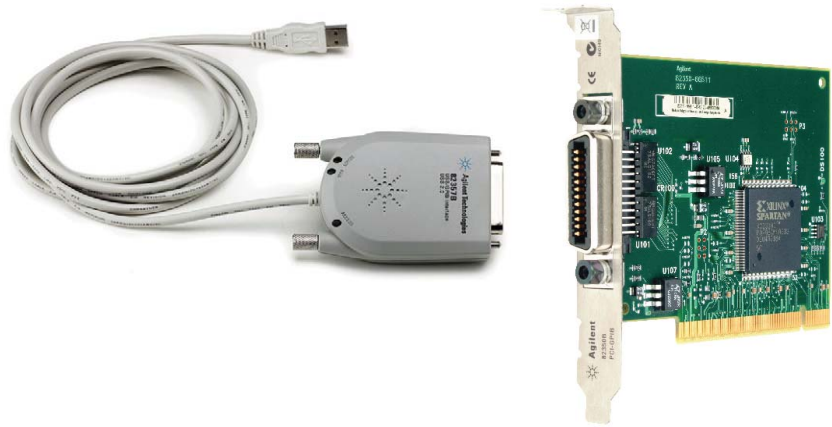

Figure 1. Agilent 82357B USB/GPIB converter and 82350B GPIB card
This application note provides answers to frequently asked questions about incorporating Agilent GPIB connectivity products into a National Instrument (NI) LabVIEW system. These tips give an insight on how to use the Agilent GPIB interface card or converter (see Figure 1) to control instruments in a NI system. Instructions are also given on how to use both Agilent and NI GPIB controllers at the same system and how to configure the NI-488.2 based system software when an Agilent GPIB card is used to replace a NI GPIB card. See Table 1 for Agilent's GPIB compatibility with NI LabVIEW system. To substitute NI GPIB hardware with an Agilent GPIB solution, please refer to Tip 3.